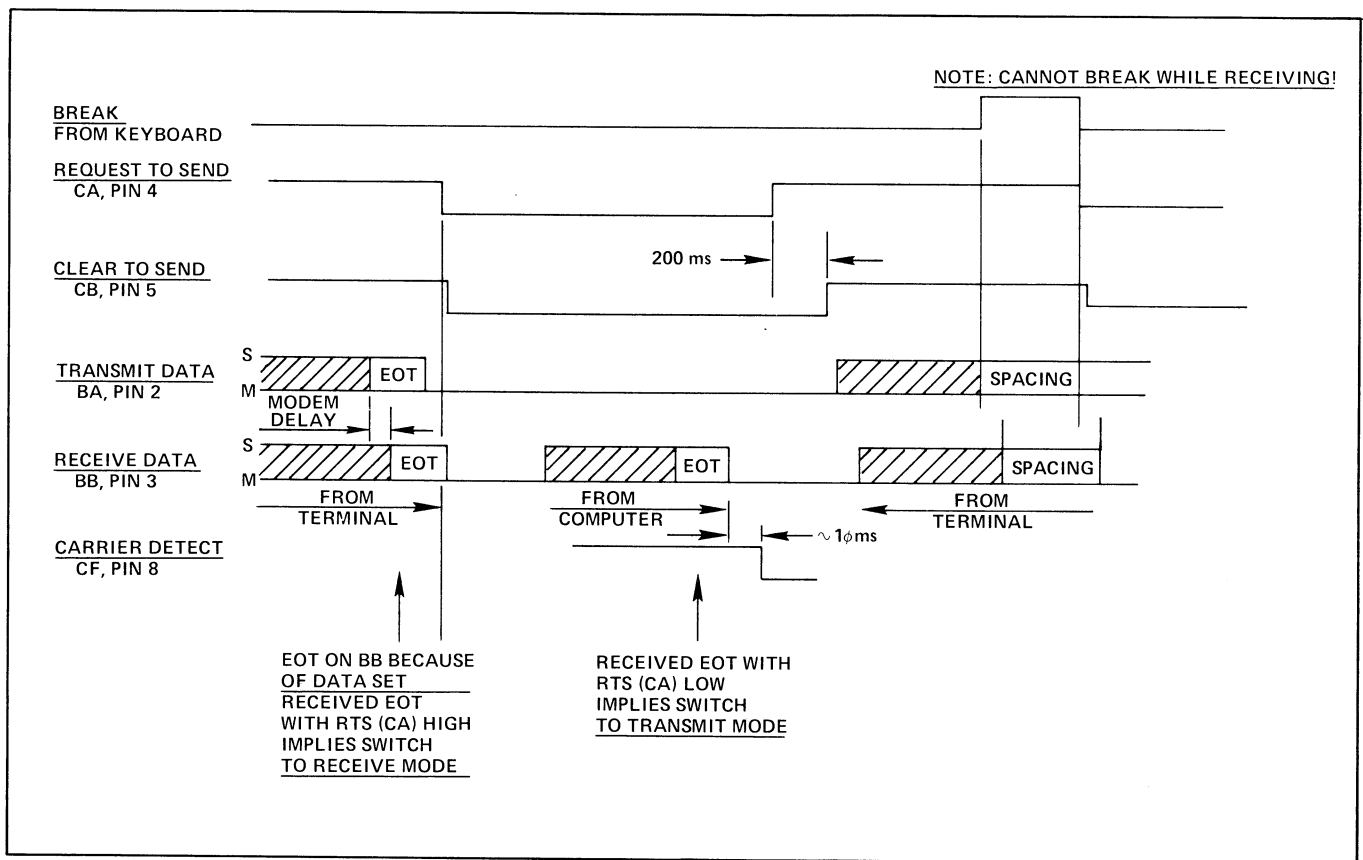

Figure 4-17. Interface Timing for Code Turnaround
4.3.16.1 Code-Turnaround Control. Either an ETX code or an EOT code may be selected to initiate turnaround, depending on the position of the ETX-EOT switch. When the selected code appears in the input data, LATCHED CODE is set. When CARRIER DETECT falls (figure 4-17), indicating that the remote end of the line has dropped, RTS is set.